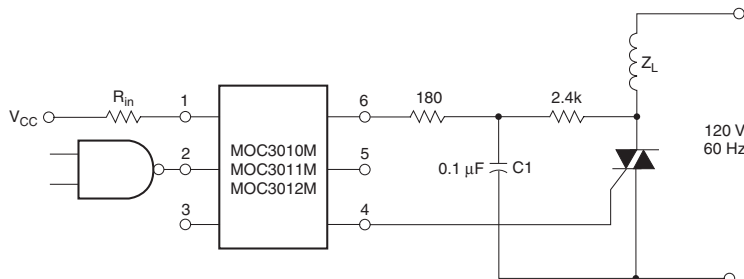

**Figure 5. Static dv/dt Test Circuit**
2. This is static dv/dt. See Figure 5 for test circuit. Commutating dv/dt is a function of the load-driving thyristor(s) only.
Fig. 5 dv/dt vs. Temperature